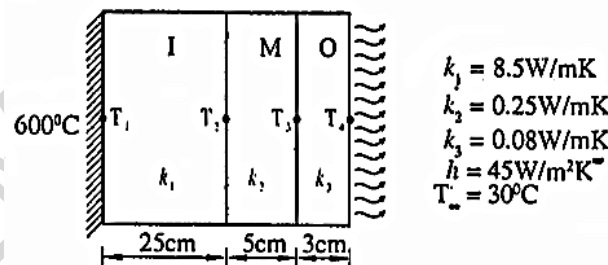

Fig. 6
- c) Determine the nodal temperatures for the composite wall shown in fig. 6 08